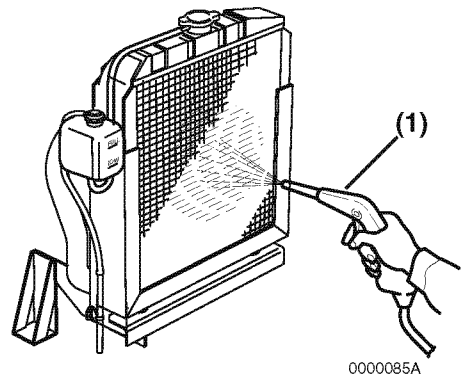

Figure 5-10
Note that a typical radiator is shown in Figure 5-10 for illustrative purposes only.
- Blow off dirt and dust from fins and radiator with 28 psi (0.19 MPa; 2 kgf/cm²) or less of compressed air (Figure 5-10, (1)). Be careful not to damage the fins with the compressed air.